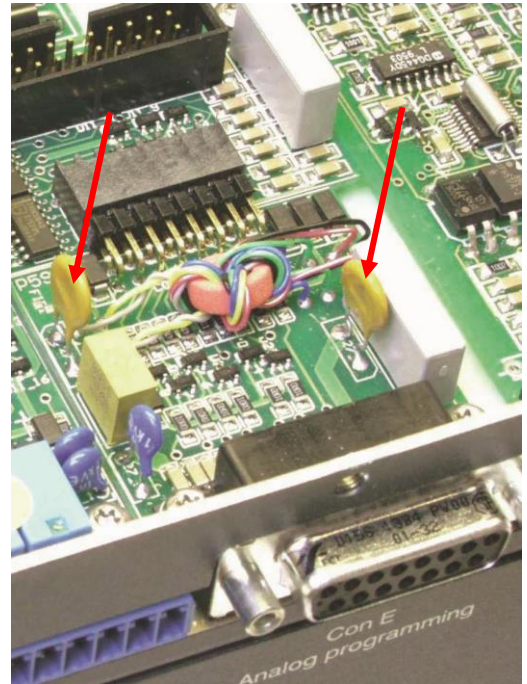

fig 5 - 1
- Check fuse F27\_2 in series with Ø (pin 8 of CON E), see fig. 5 - 1. To check the fuse measure the voltage between Ø and the minus output, a high voltage means too much current flowing through the fuse. F27\_2 = 650 mA, self resetting.